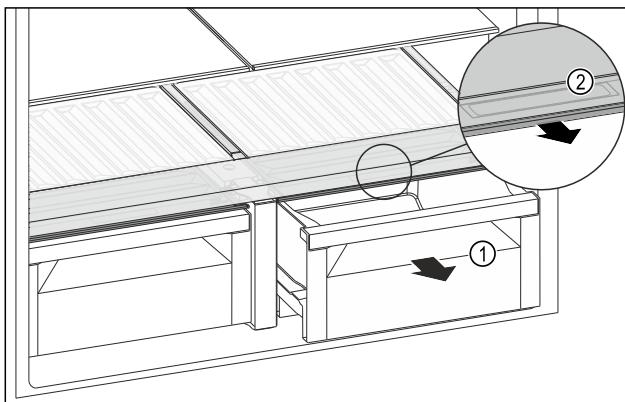

Fig. 142
- ▶ Pull out the drawer Fig. 142 (1).
- ▶ Grasp the recessed grip Fig. 142 (2) on the compartment lid and pull the compartment lid forwards at the same time.